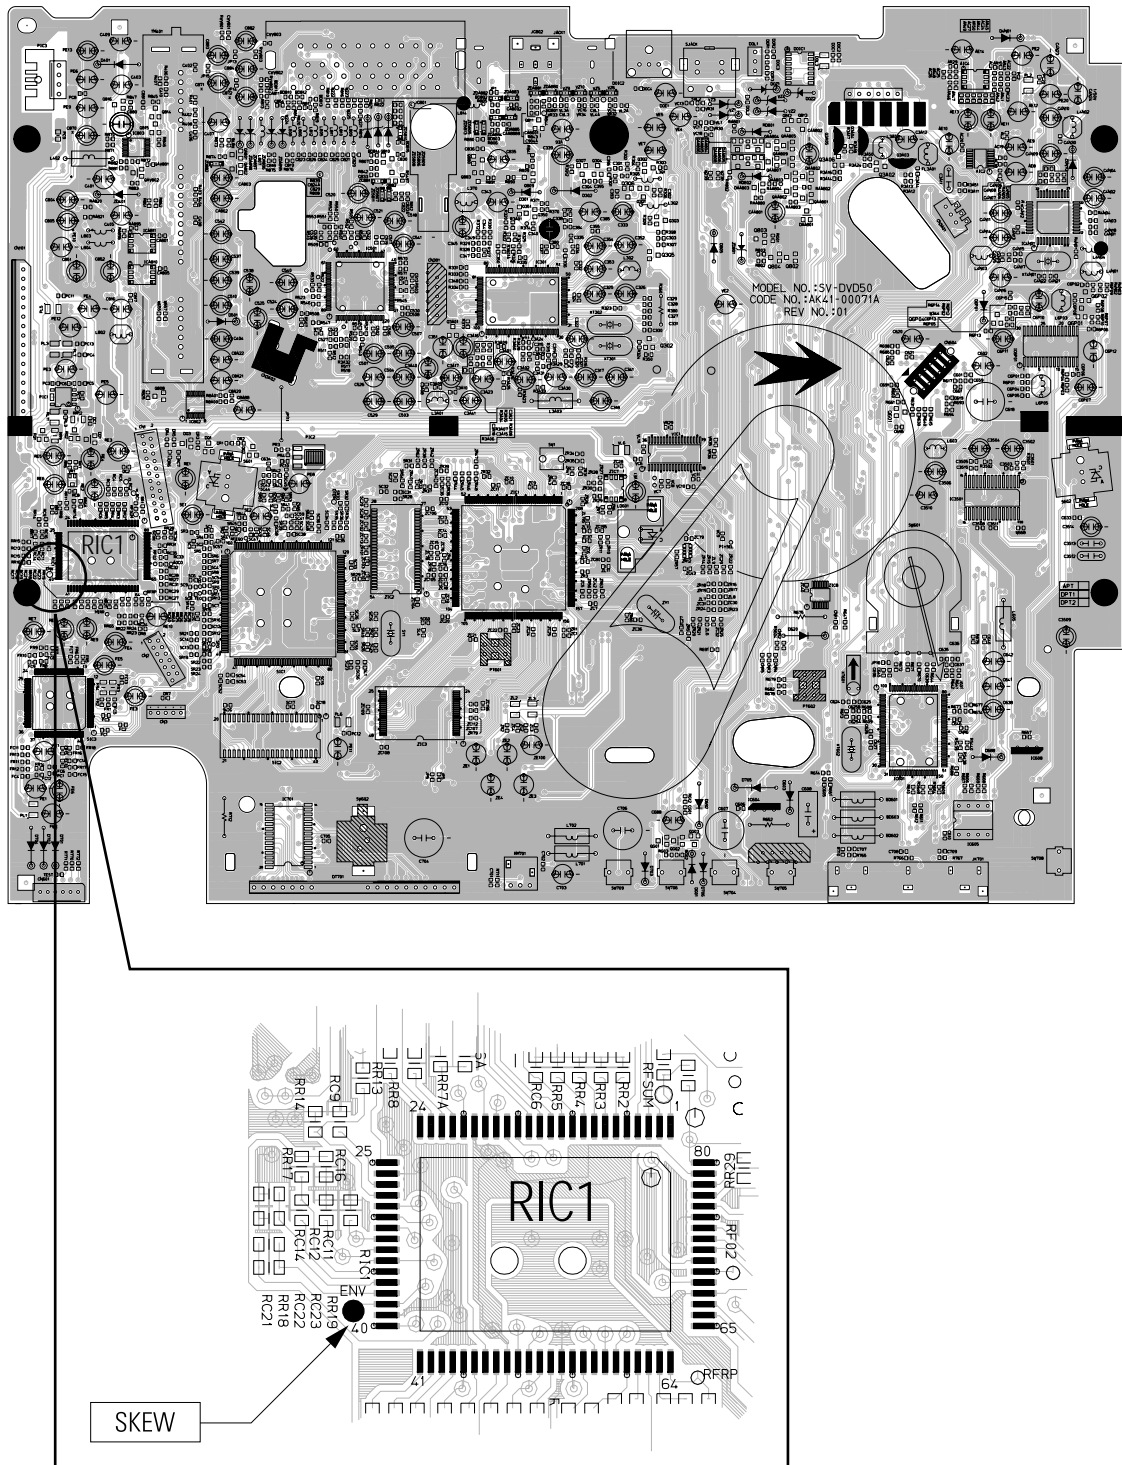

Fig. 6-5 Location of test Point (Main PCB - Top Side)
- 1) Connect an Oscilloscope to the “ENV” Test Point (See Fig. 6-5).